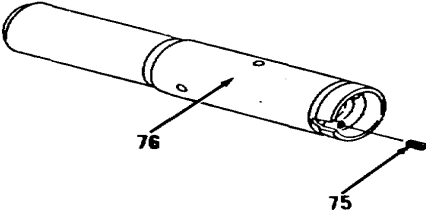

Figure 10-29.
- 34. Remove setscrew (75) from cartridge (76, Figure 10-29).